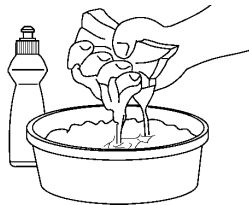

Figure 16
3. Wash the air filter in laundry detergent or kerosene (Fig. 16).